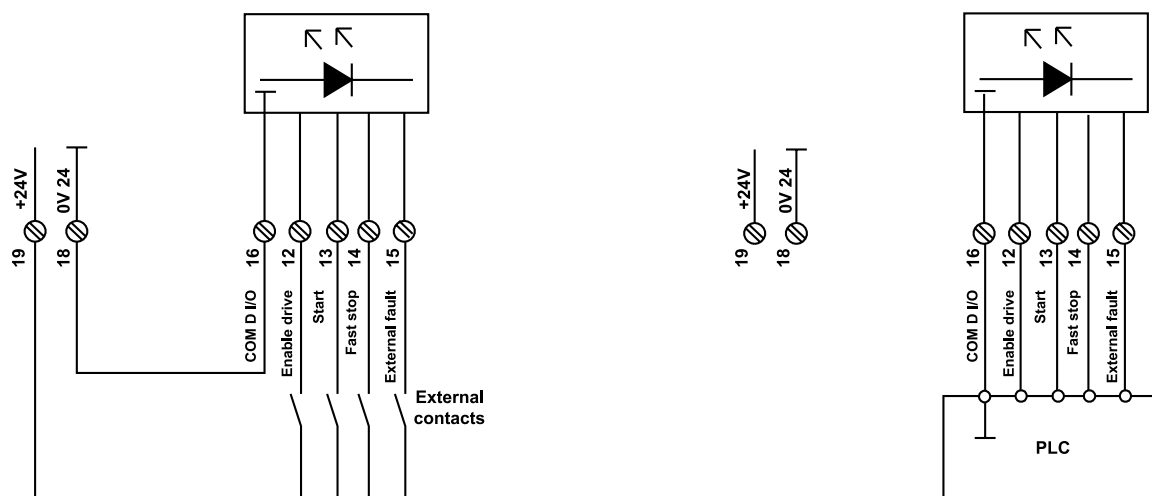

Figure 6.1.1 Enables via potential free contacts and PLC
- Figure 6.1.1 show the connection principle